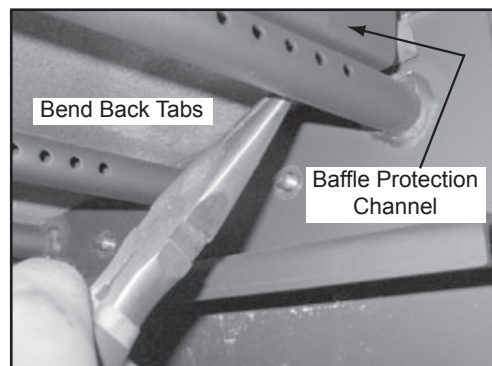

Figure 10.1
2. Remove the baffle protection channel by bending back the tabs using needle nose pliers located at the right and left side of the protection cover. Lift the cover up slightly and pull toward the front and out of the firebox. **Figure 10.1**